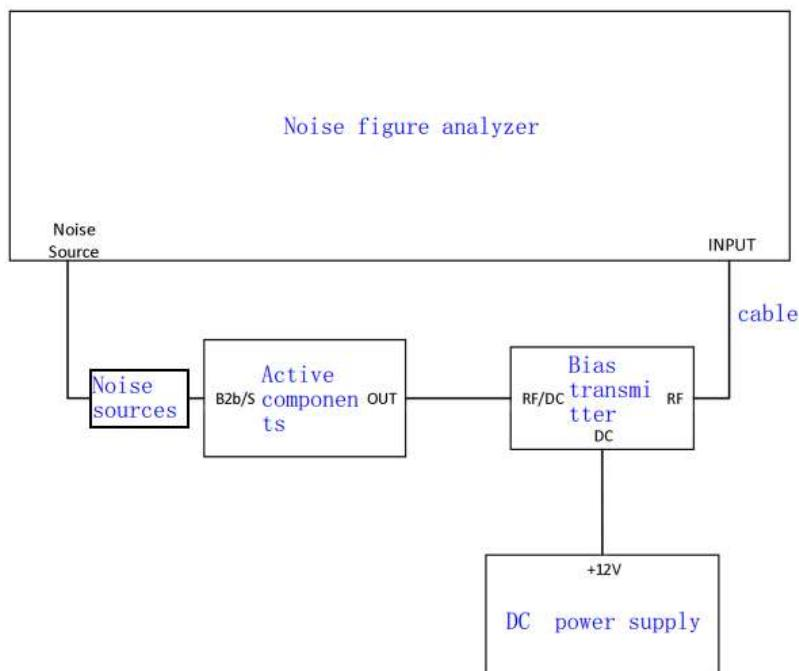

Figure 3: Noise figure Test schematic
- 3) As shown in Figure 3, set up a test environment;